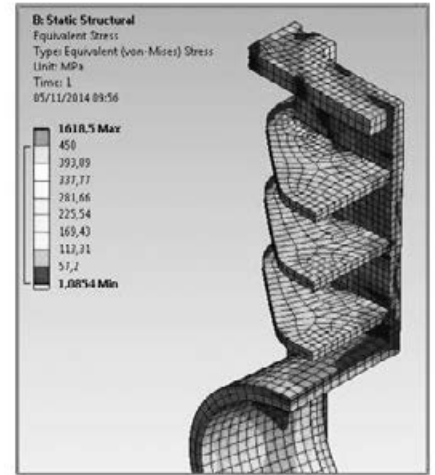

Figure 3: FEA analysis on slab gate valve body
- Fabricated body construction with engineered ribs profile [Figure 3]:**